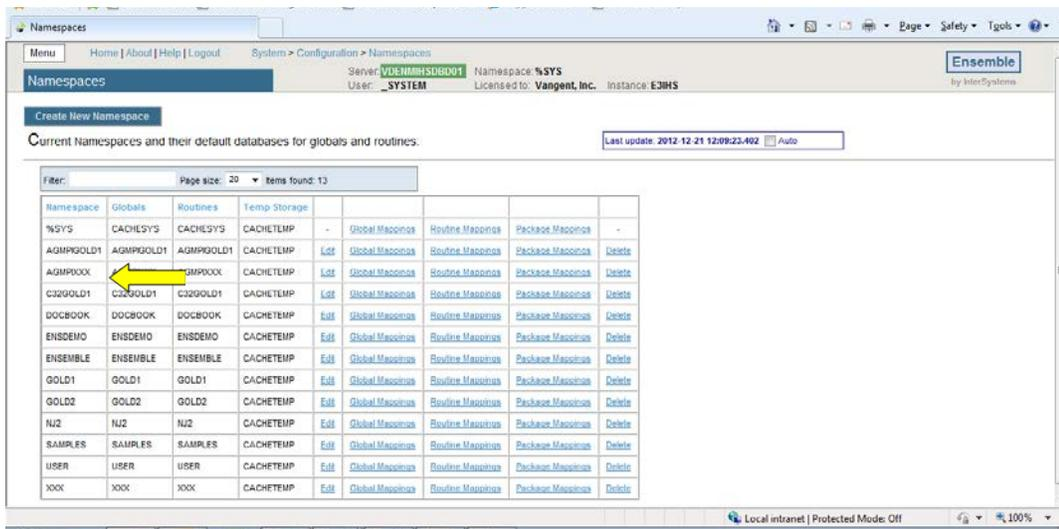

Figure 4-10: Newly created AGMPIxxx namespace in the **Namespaces** page
15. Click **Save** to display the **Namespaces** page, as shown in Figure 4-10.